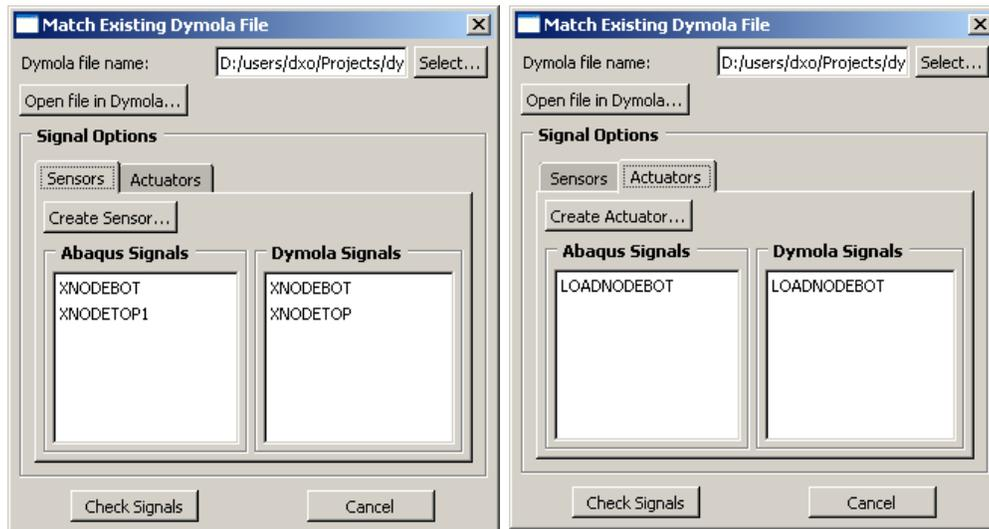

Figure 5-6: Match signals between Abaqus/CAE and Dymola
- Click on the **Select** button across **Dymola file name** field to bring an existing Dymola logical model file into Abaqus/CAE. Clicking on the button will bring up a file selection dialog. Select the `inverted_pend.mo` file and click **OK**. A dialog box as shown in Figure 5-6 will be posted.
**Dymola Model** in the Appendix for more information on generating the DLL file. The sensor history outputs have to be created in the Abaqus/CAE model to match with the Dymola sensors. As described in Section 5.2.2, click the **Create Sensor...** button and create a sensor with the name **XNODEBOT** for the node set **POLE-1.NODEBOT** and output variable **COOR1**. The sensor will now be displayed on the **Abaqus Signals** list of the **Sensors** tab as shown in Figure 5-6. Next, click the **Check Signals** button at the bottom of the dialog box. A dialog message stating that Dymola sensor **XNODETOP**